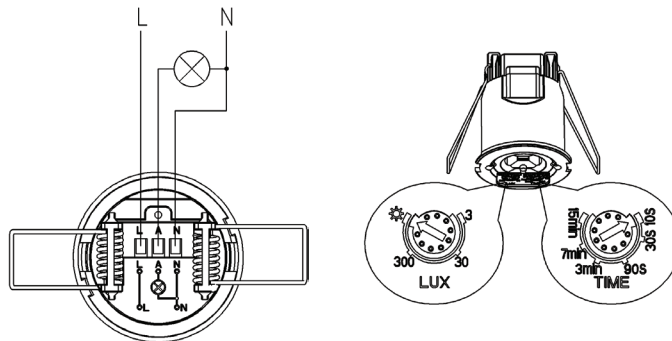

FIGURE 1
- Turn the LUX knob clockwise on the maximum (sun). Turn the TIME knob anti-clockwise on the minimum (10s) (Refer to figure 1).
- Switch on the power; the sensor and its connected lamp will have no signal at the beginning. After Warm up time of 30sec, the sensor will start working. If the sensor receives the induction signal, the lamp will turn on. While there is no another induction signal, the load should stop working within 10sec $\pm$ 3sec and the lamp will turn off (Refer to figure 1).
- Turn LUX knob anti-clockwise on the minimum (3). If the ambient light is more than 3LUX, the sensor will not work and the lamp stops working too. If the ambient light is less than 3LUX (darkness), the sensor will work. Under no induction signal condition, the sensor should stop working within 10sec $\pm$ 3sec (Refer to figure 1).